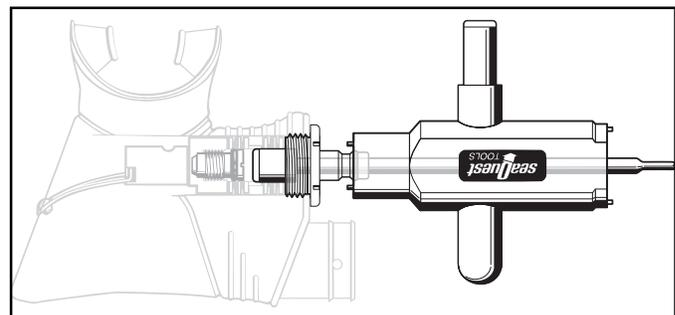

Figure 27
1.3.34 Place the narrower end of a modified (drilled) or current (purchased after July 1, 1999) T-Tool over the adjustment shaft, and mate the two small pins into the holes of the quick disconnect fitting. While holding the tool securely engaged, tighten the fitting clockwise until it is snug and its flange is seated flush against the body (see Fig. 27). Do not overtighten.